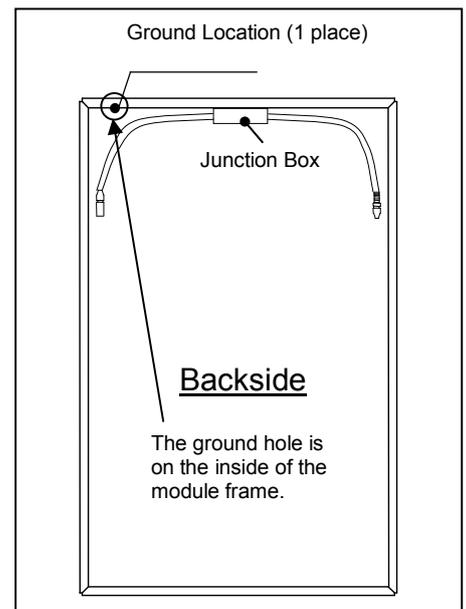

Figure 2. Module Ground Position
- Each framed module has a 0.16" diameter (4 mm) hole marked "G" in the shorter side frame rail (see Figure 2), to connect a grounding conductor to the module's metal frame.